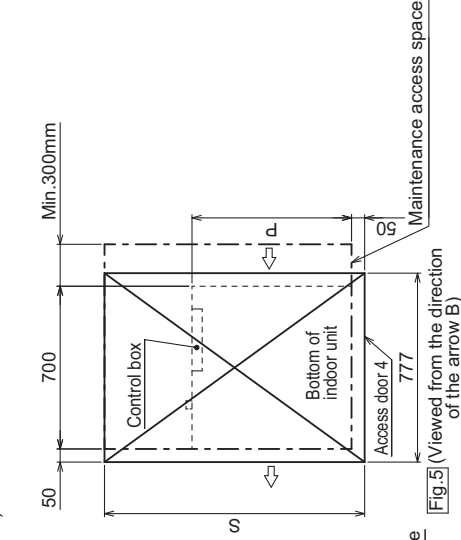

Fig.5 (Viewed from the direction of the arrow B)
- Create access door 4 below the control box and the unit as shown in Fig.5.
[Fig.5] (Viewed from the direction of the arrow B)